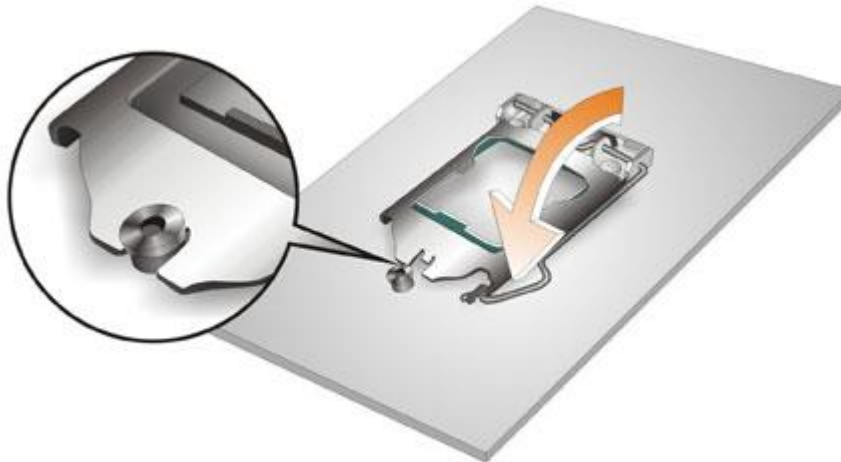

Figure 4-6: Close The Socket LGA1851
Step 12: Close the CPU socket. Close the load plate and pull the load lever back a little to have the load plate be able to secure to the knob. Engage the load lever by pushing it back to its original position (**Figure 4-6**). There will be some resistance, but will not require extreme pressure.